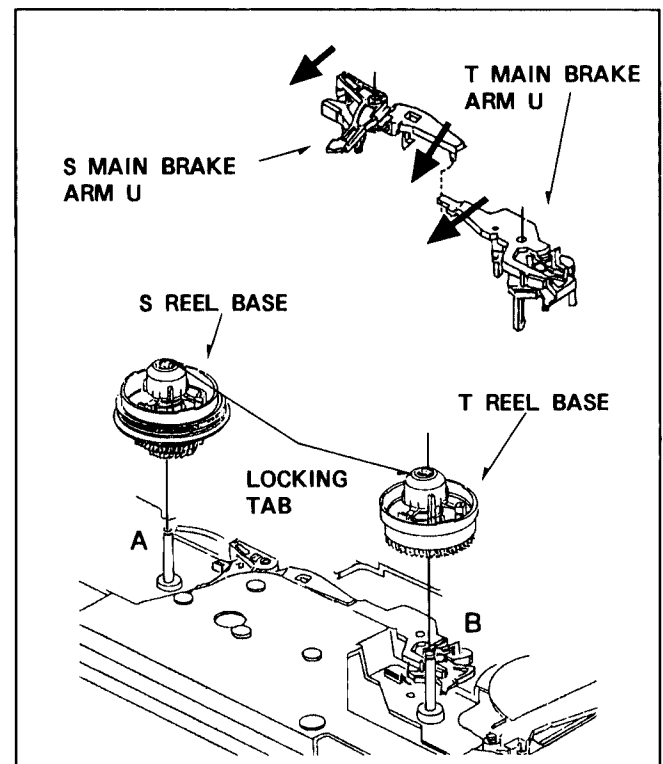

Fig.M8
2. Push the Supply main Brake Arm to direction of arrow mark and unlock the locking tab on the Supply Reel Base then pull up the Supply Reel Base Unit as shown in Fig.M8.
1. Push the Take-up Main Brake Arm to direction of arrow mark and unlock the locking tab on the top of Take-up Reel Base then pull out the Supply Reel Base Unit as shown in Fig.M8.